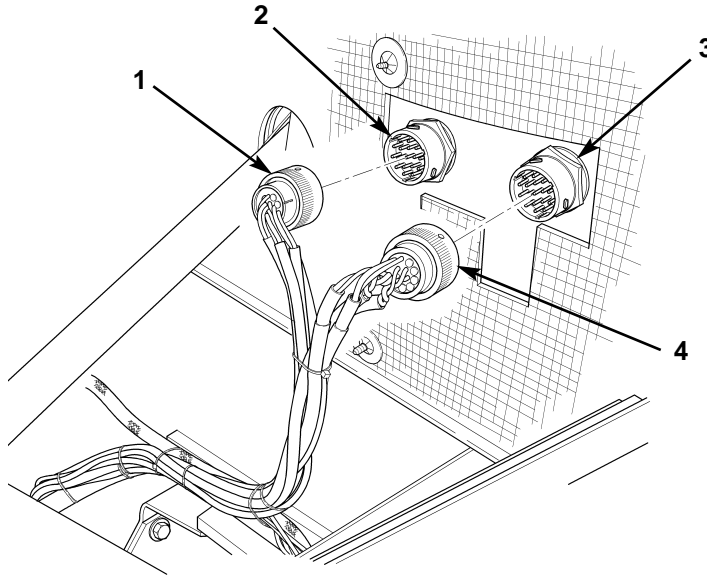

Figure 3. Disconnecting Speed Sensor and Modulator Harness Connectors.
5. Disconnect speed sensor harness connector (figure 3, item 4) and modulator harness connector (figure 3, item 1) from two bulkhead connectors (figure 3, items 2 and 3).
7. Repeat step 7 to remove speed sensor harness bulkhead connector (figure 3, item 3).